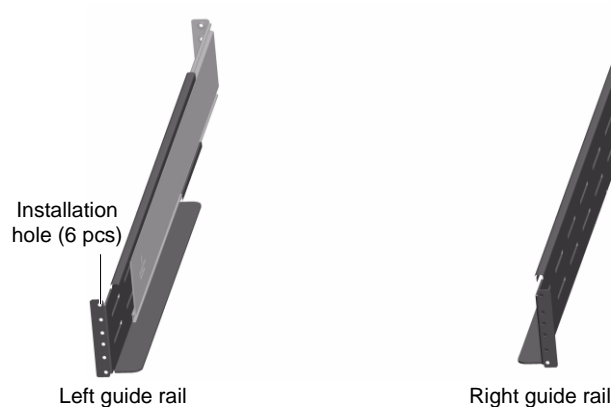

Figure 2-8 Appearance of guide rail
1) Take out the guide rails (one left guide rail and one right guide rail), guide rail screws and panel screws from the package, distinguish the left guide rail and right guide rail according to Figure 2-8, and confirm its retractable function respectively.
2. Each end of one guide rail has six installation holes (see Figure 2-8), do not use the two installation holes in the middle when fixing the guide rail. It is recommended to use the two installation holes at the top and at the bottom (from top to bottom, installation hole 1 and installation hole 6).